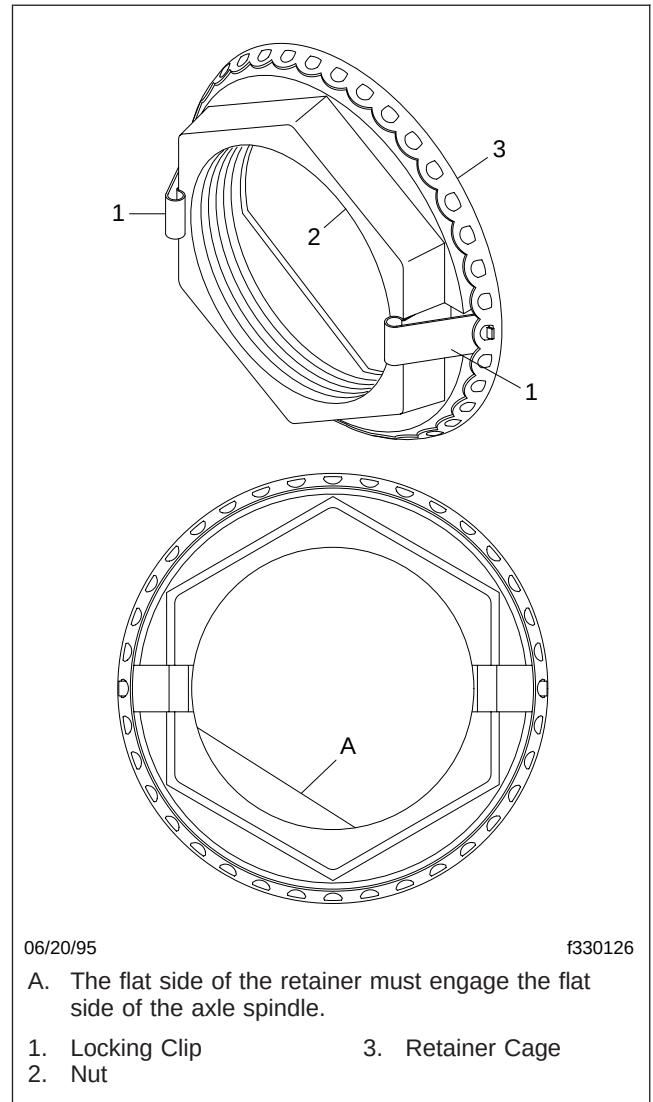
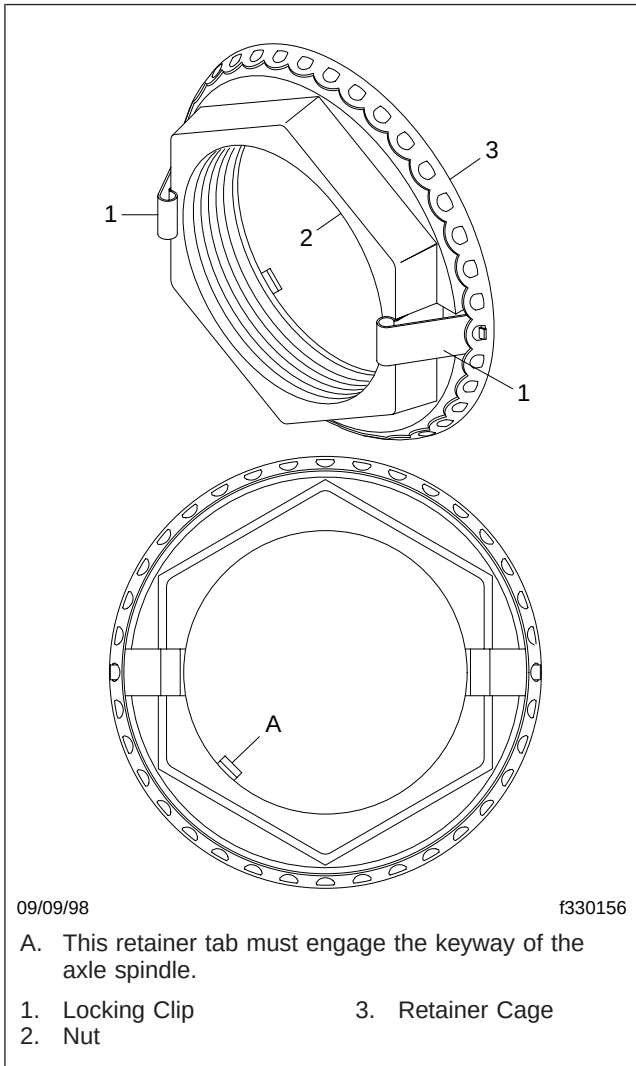

Fig. 1, Axilok Retaining Nut, Meritor Front Axle
Fig. 2, Axilok Retaining Nut, Eaton Front Axle
2. By hand, install the Axilok nut onto the axle spindle. See Fig. 1 and Fig. 2.
1. Apply a few drops of oil through one of the holes in the Axilok retainer cage to reduce friction between the retainer cage and nut. See Fig. 1 and Fig. 2.